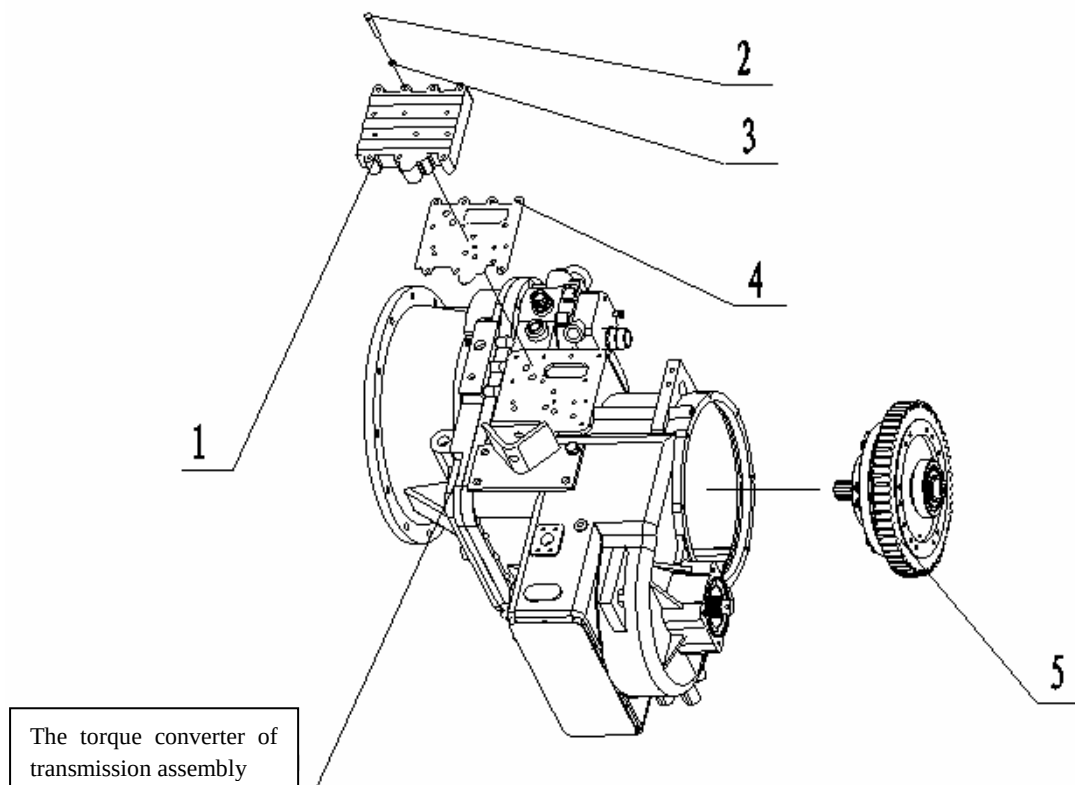

Figure 10
Assemble the four-axis assembly (2) (refer to the Figure 10)
29. Coat the lubricating oil on the medium cover bearing fossa and the  bearing, and install the direct gear assembly (5).
30. Place the seal gasket (4) on the variable speed control valve (1), then install the variable speed control valve (1) and the seal gasket (4) on the box assembly, and tighten with the bolt (2) and the washer (3).  $52 \pm 7 \text{ Nm}$. Tighten after coating rubber on the joint of variable speed pressure gauge.  1545 screw sealant